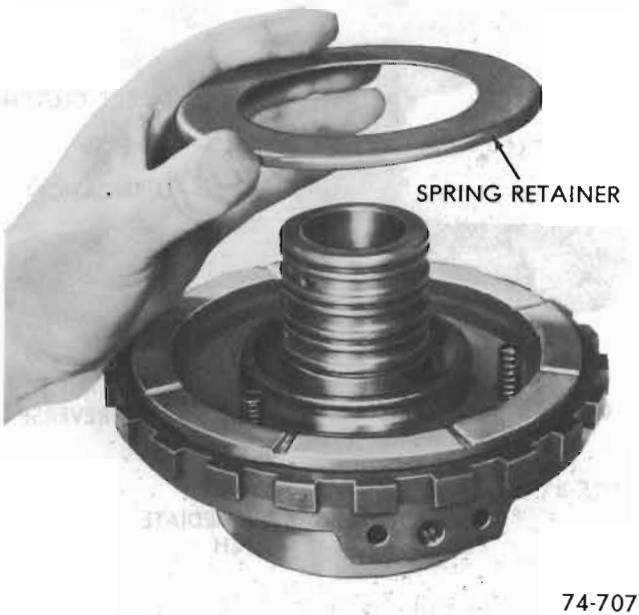
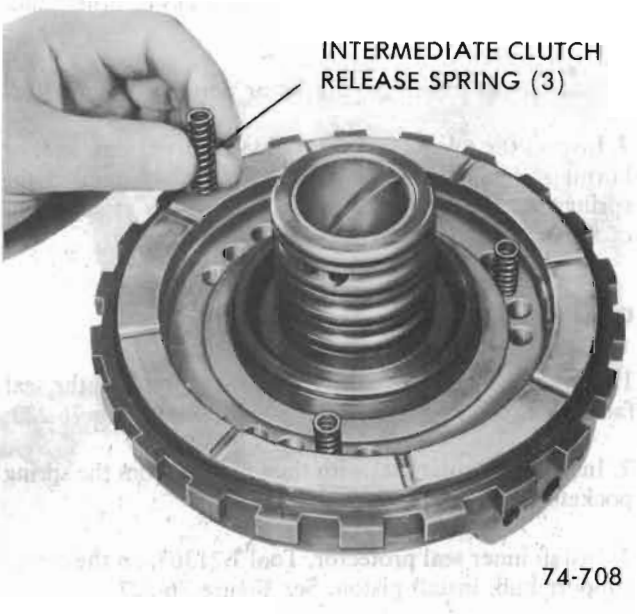

Figure 76-220
Figure 76-221
3. Remove spring retainer. See Figure 76-220. Remove three (3) clutch release springs. See Figure 76-221.
4. Install three (3) release springs into the piston, space equally during assembly. See Figure 76-221.